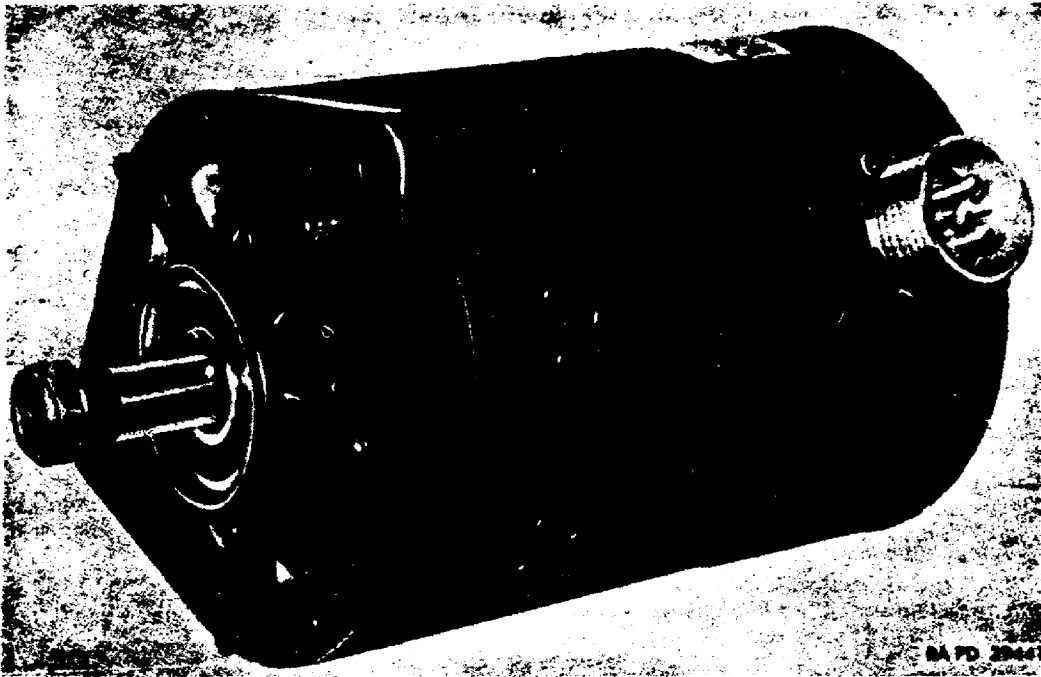

Figure 4. 100-ampere generator.
b. 100-ampere generator (alternator). Even though the 100-ampere generator (fig 4) has not been discussed in detail, it functions basically in the same manner as the 40/60 system. The differences between them are as follows.
(1) The 40/60-ampere system has an AC generator, rectifier, and regulator all contained in a single unit.
(2) The 100-ampere system consists of three individual components which are connected together by electrical cables. These individual components are the AC generator, separate rectifier component, and separate regulator component.